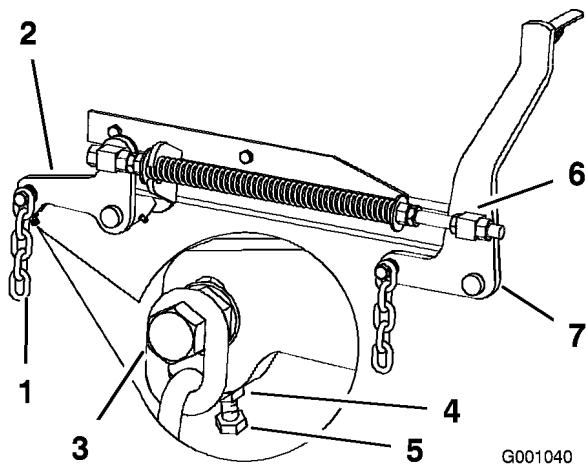

Figure 58
7. If the measurements at positions **B** or **C** are not correct, loosen the bolt attaching the rear chain to the rear support arm (Figure 58).
8. Loosen the jam nut under the rear support arm and adjust the adjustment bolt to get a measurement of 3-1/8 to 3-1/4 inches (Figure 58).
7. Loosen the front swivel jam nuts, at the front of the right and left swivels, approximately a 1/2 inch (13 mm) (Figure 58).
8. Adjust the lift nuts on both the left and the right side of the machine to achieve 1/4 to 3/8 inch (6 to 10 mm) lower in front at **A** than in the rear at **B** (Figure 58).